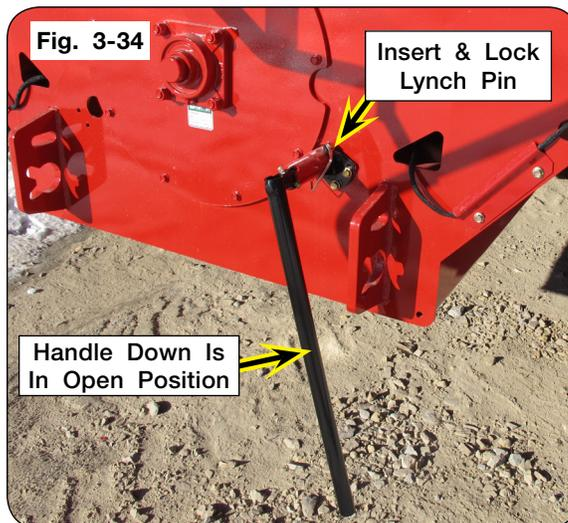

Fig. 3-34
3. Rotate the tensioner handle clockwise to open the cleanout doors. (Fig. 3-34)
4. Insert and lock lynch pin into rockshaft. (Fig. 3-34)